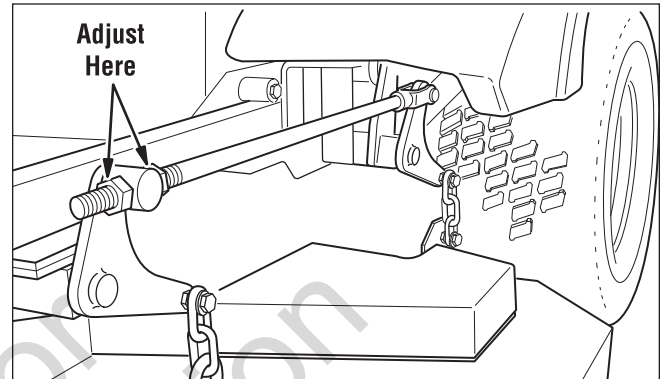

Figure 39. Adjust Lift Rod Timing
4. Refer to Figure 39. To adjust the lift rod timing, adjust the 5/8" hex nuts on either side of the front lift pivot until the measurements are equal. Repeat for other side.